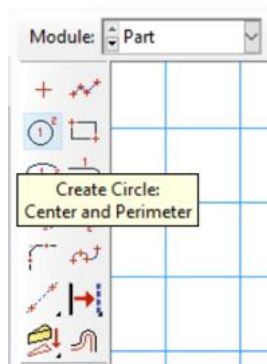

Figure 3-5 – Use the create circle drawing tool.
3. To sketch the hole, you need to select the **circular drawing** tool, as shown in Figure 3-5.